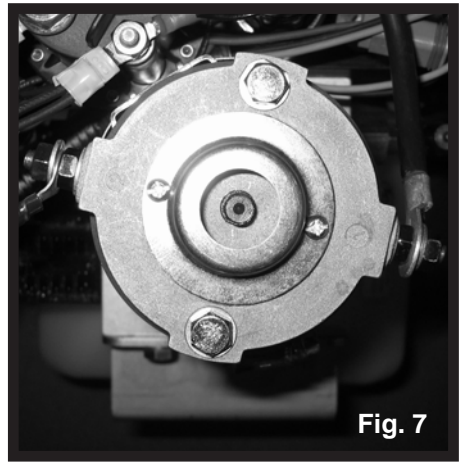

Fig. 7
3. Insert 1/2" socket onto coupler found under plastic cap, Fig. 7.